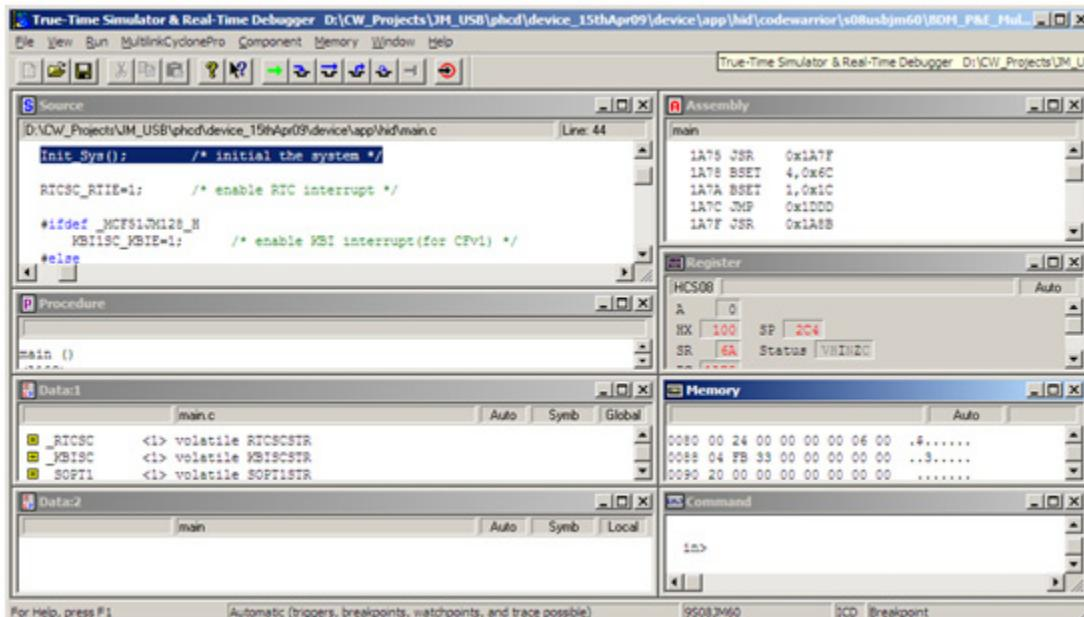

Figure A-14. Simulator and Real-Time Debugger
- After the image is programmed in the flash, the debugger window as shown in Figure A-14 appears. Click on the Green Arrow as shown in Figure A-14 to run the programmed image.